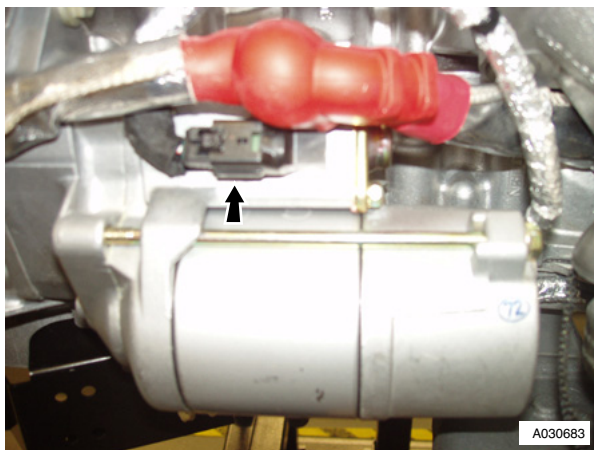

Fig. 11
27. Disconnect multiplug (x1) starter motor (see Fig. 11).